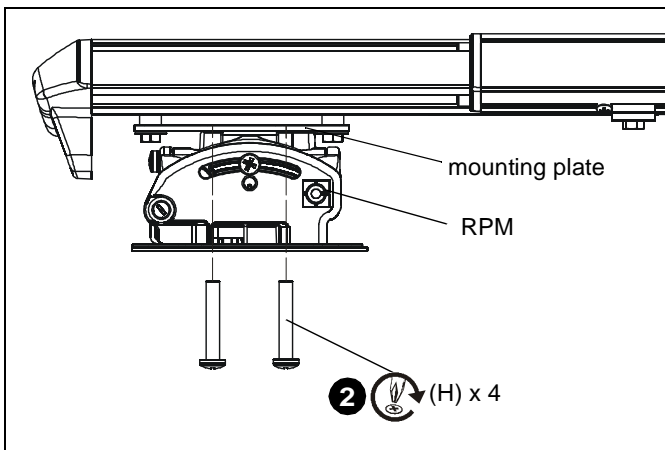

Figure 16
2. Install four 1/4-20 x 1 1/2" Phillips pan machine screws (H) through RPM holes and into projector mounting plate. (See Figure 16)